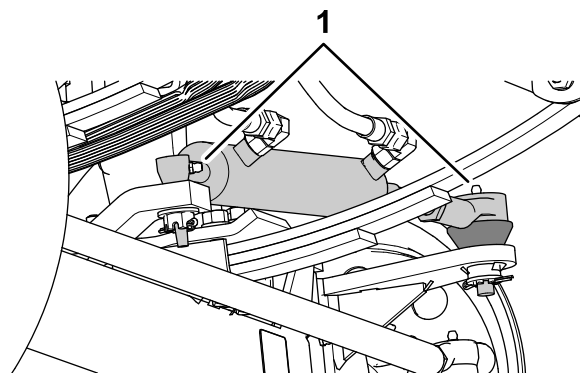
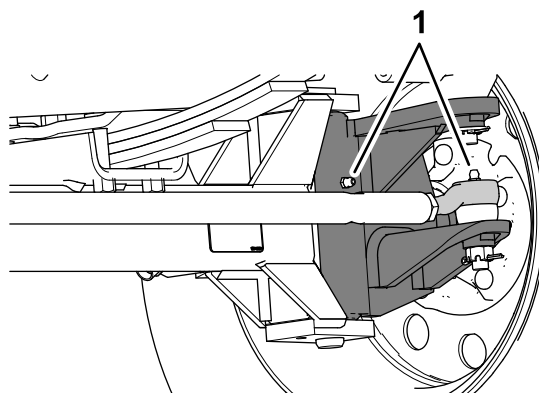

Figure 104
Figure 105
1. Wipe the grease fittings clean (Figure 104 and Figure 105).
2. Pump grease into the grease fittings (Figure 104 and Figure 105).
Note: The grease fittings positions are illustrated in Figure 104.